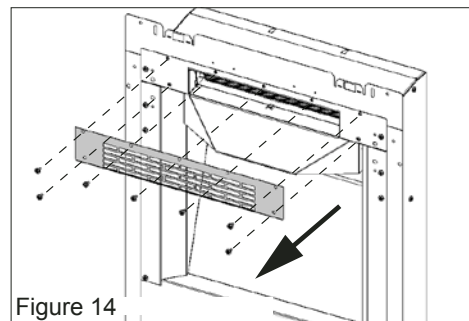

Figure 14
2. Before fitting the arch, the hood and its baffle must be installed on the heater. Remove the upper grill panel from the heater—see figure 14.